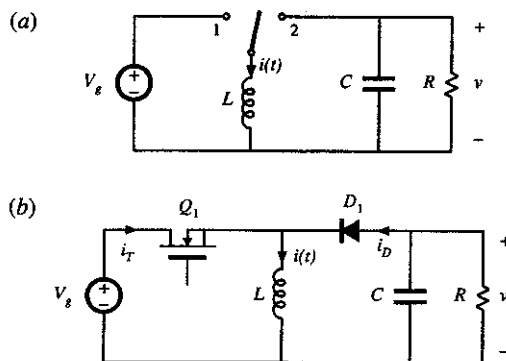

Fig. 2.28
2.1 Analysis and design of a buck-boost converter: A buck-boost converter is illustrated in Fig. 2.28(a), and a practical implementation using a transistor and diode is shown in Fig. 2.28(b).